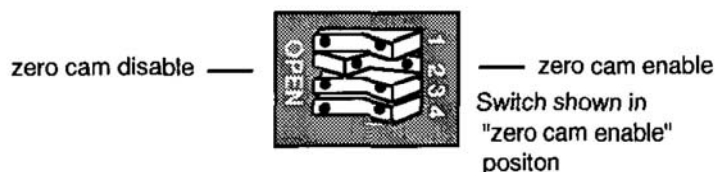

Figure 2-10. Zero cam enable switch S101
- The last thing you need to do is set DIP switch #2 on switch block S101. You must set switch 2 to "ZERO CAM ENABLE". The switch block marked S101 is located to the right of the full scale tonnage switches. With a ball point pen (not a pencil) or your thumbnail, push the switch #2 to the right—to the "zero cam enable" position. See Figure 2-10. Make sure you push the switch all the way to the right. *Also, if power is on, press and hold the Reset button for at least two seconds (toggle switch S102 must be set to "operate" before pushing Reset).* This must be done any time the switch is changed with power on. If power is off, AutoSet automatically resets at start-up.